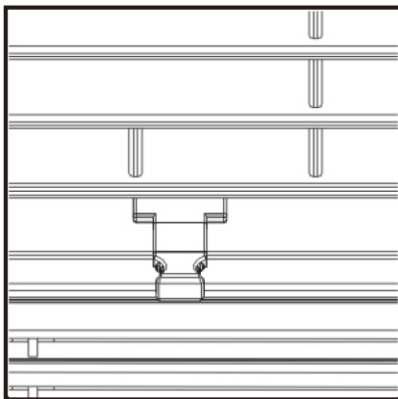

Fig 2 (VENT OPEN)
2. Draw fresh air into the room- Vent Open (see Fig.2)